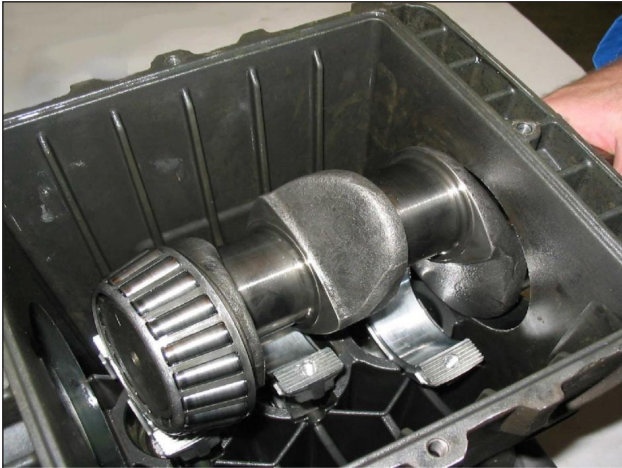

Fig. 4
- Push the piston guides forward with their con-rods to facilitate side extraction of the pump shaft as shown in Fig. 4.